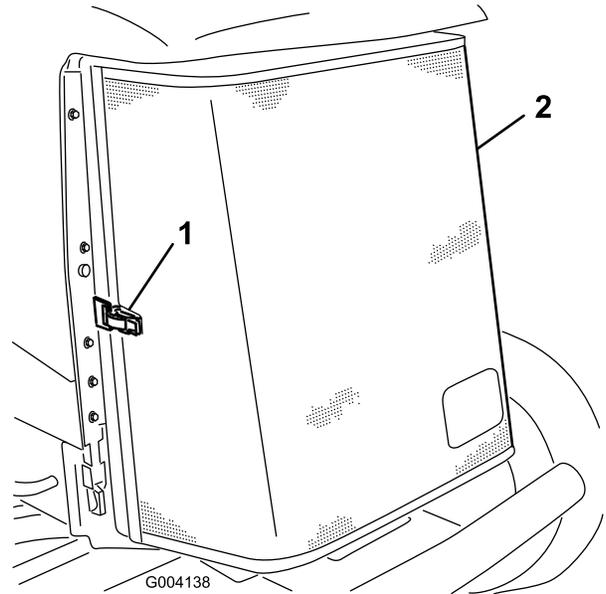

Figure 43
3. Unlatch the clamp and pivot open the rear screen (Figure 43).